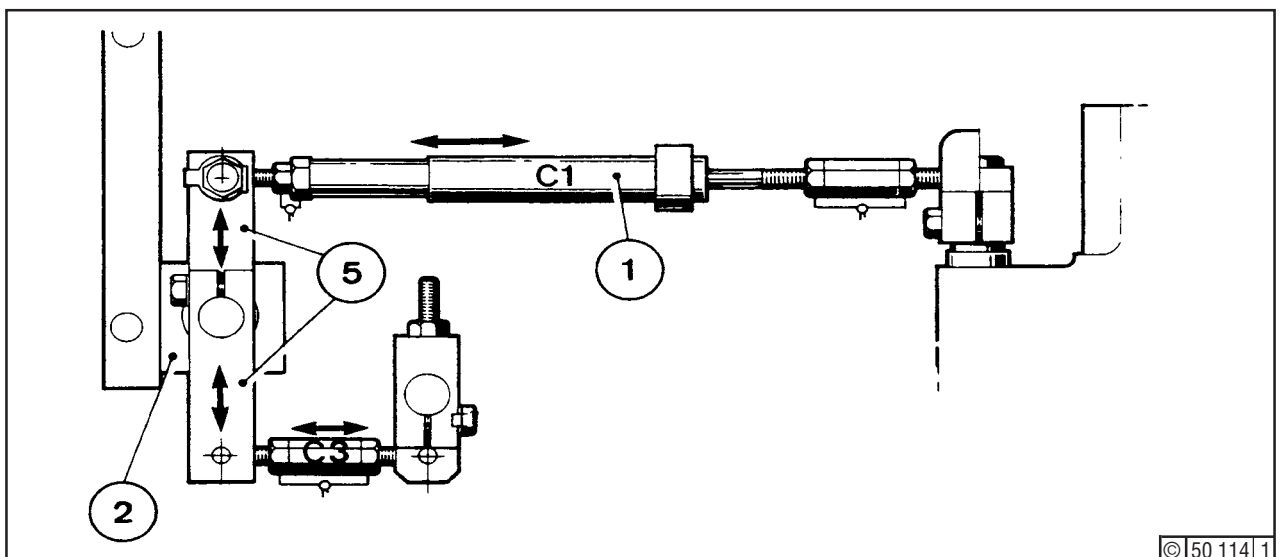
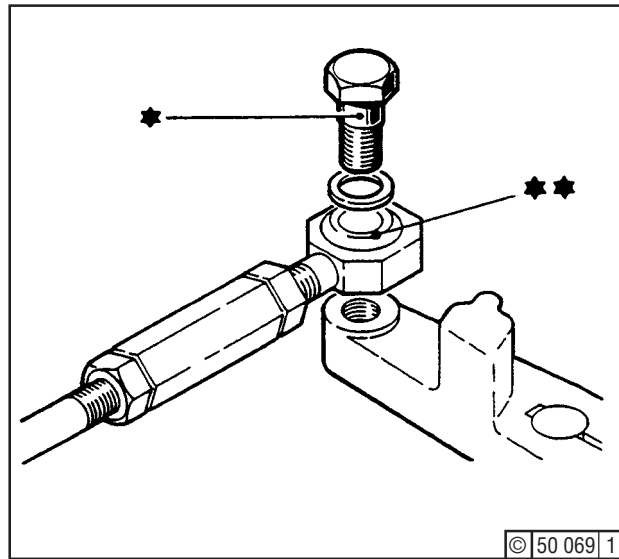

Fig. 1
Fig. 2 Telescopic piece
Move link rods C1 (Fig. 1) and C3 to and fro. If play is found to exist, the link heads are worn and must be replaced (see "Reconditioning").
Inspecting Telescopic Piece C1(Fig. 1)
Undo fitted hex. bolt (*) - Fig. 2 -. At the other end of the link, release locking plate and screw out fitted hex. bolt. Take link rod out of forked lever, compress by hand, and release. The resistance thereby occurring should result solely from the compression spring inside the telescopic piece (1) - Fig. 1 -. The link rod should then return to its original position.
If not, the telescopic piece must be reconditioned. Reassembly is in the reverse order, the fitted hex. bolt (*) - Fig. 2 - then being inserted with locking compound Deutz DW 57.
Renewing Heads of Links C3 - Fig. 1 -